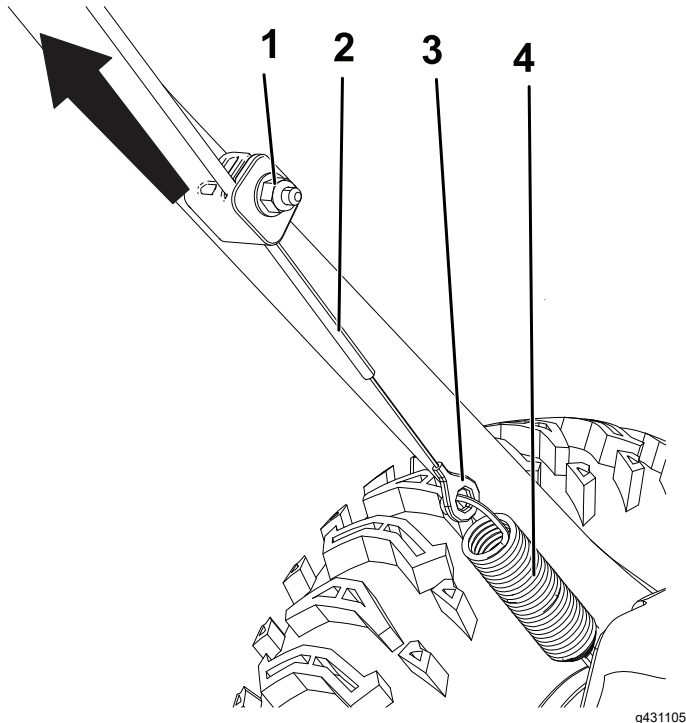

Figure 21
1. Loosen the nut on the lower cable clamp, but do not remove it (Figure 21).
2. Pull the cable up to remove some slack (Figure 21).
3. Hold the cable in place and tighten the nut (Figure 21).